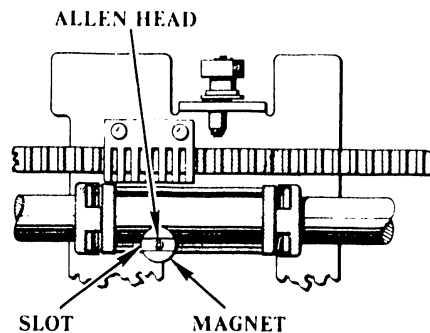

FIGURE 6-25 LOCATION OF MAGNET AND ALLEN HEAD SCREW
- 9) Put slot in line of carriage motion and tighten screw (See Figure 6-25).